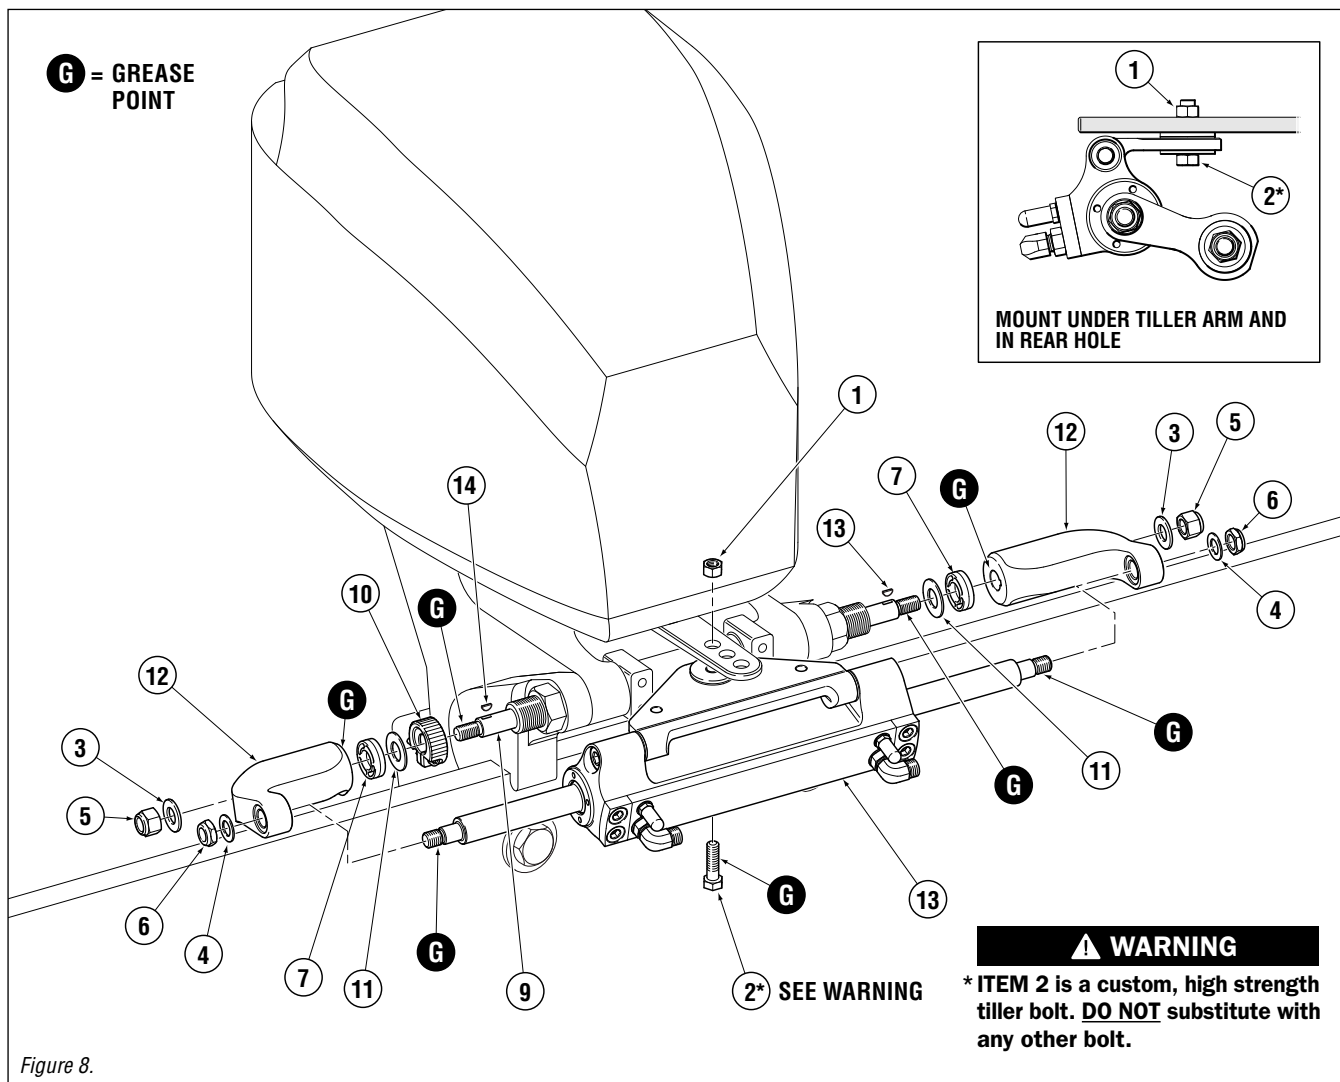

Figure 8.
**NOTE:** Locate the correct orientation of your steering cylinder(s) and tiller nut/bolt as shown in Figures 8 through 9.
- While holding tiller bolt with a wrench to prevent loosening, install and torque tiller nut (item 1) to 21ft-lb.